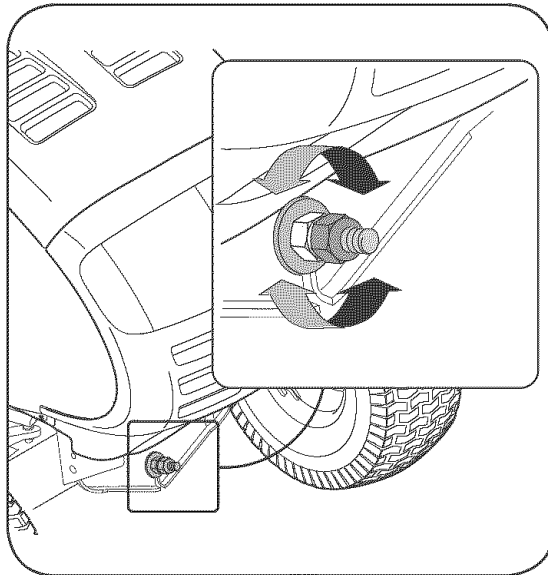

Figure 14
3. Locate the jam nut and lock nut on the front side of the stabilizer bracket. See Figure 14. After loosening the jam nut: